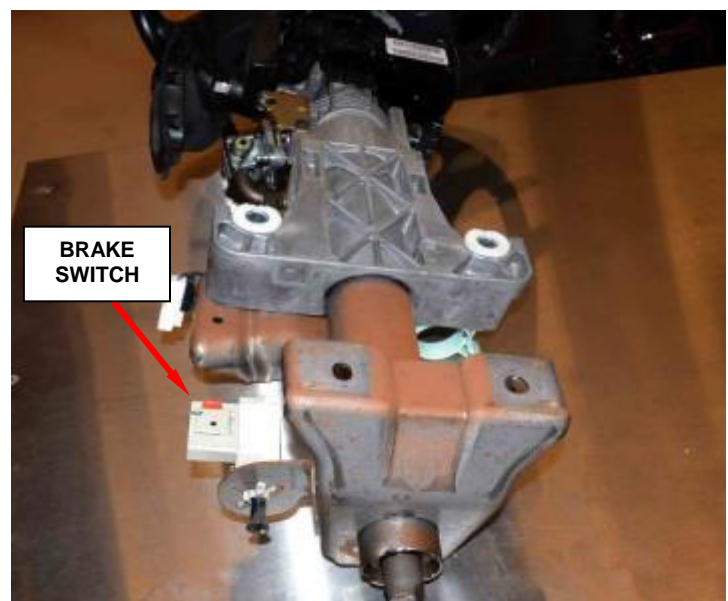

Figure 88 - Brake Switch Connector (Column out of Vehicle for Photographic Purposes)
11. Disconnect the brake switch electrical connector (Figure 88).